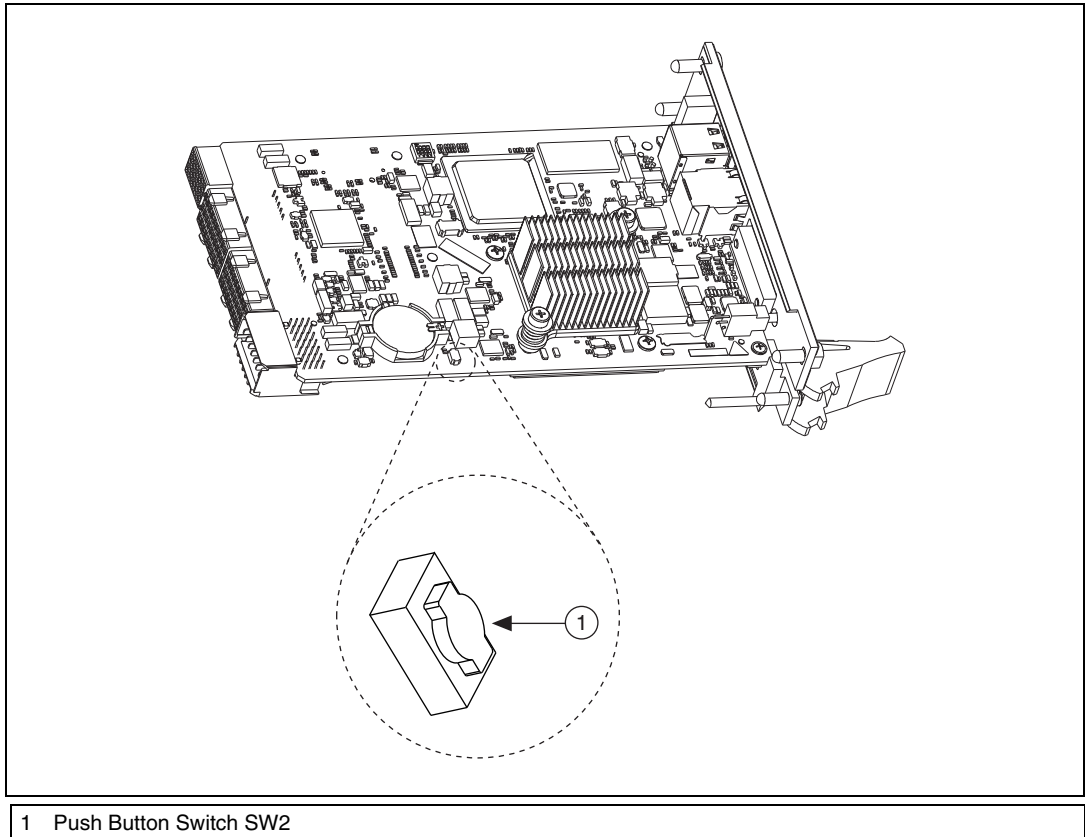

Figure 2-3. Clearing the CMOS Contents
3. Press the push button switch, as shown in Figure 2-3.